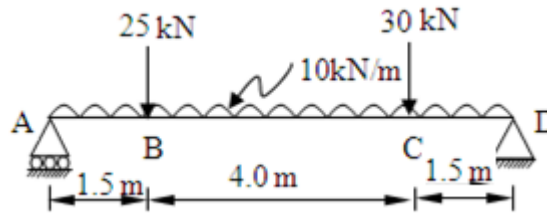

Fig.4
- (c) Find slope at point A and D & deflection at point B for the beam shown in Fig.4 by Macaulay's method. $E=200 \text{ GPa}$ and $I=14400 \times 10^4 \text{ mm}^4$. **07**